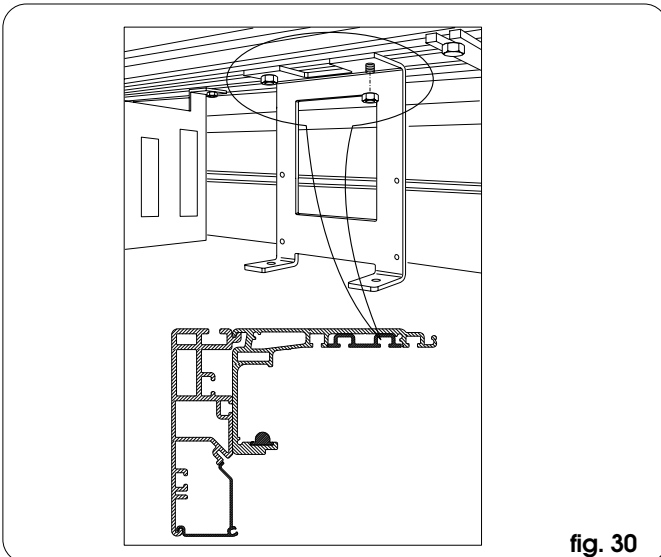

fig. 30
- Fit the central bracket, using the two screws on the activation module (fig. 30).